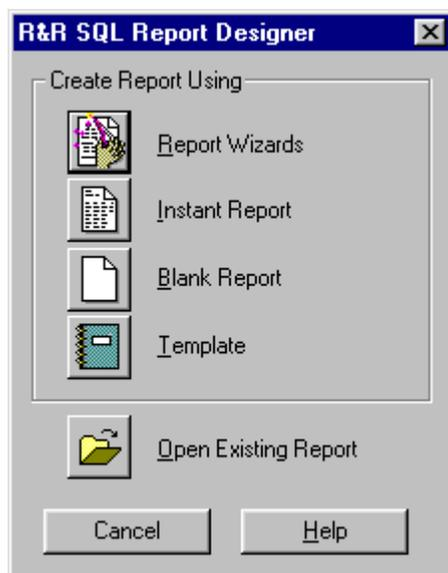

Figure 2.1 Report Designer Startup Dialog
1. Start Report Designer. By default, a dialog appears (see Figure 2.1) offering the following options: Report Wizards, Instant Report, Blank Report, and Template. (Note that you can use Options ⇒ Preferences to specify that Report Designer bypass this dialog and go directly to the option that you choose. See Chapter 5, “Setting Defaults,” for more information.)